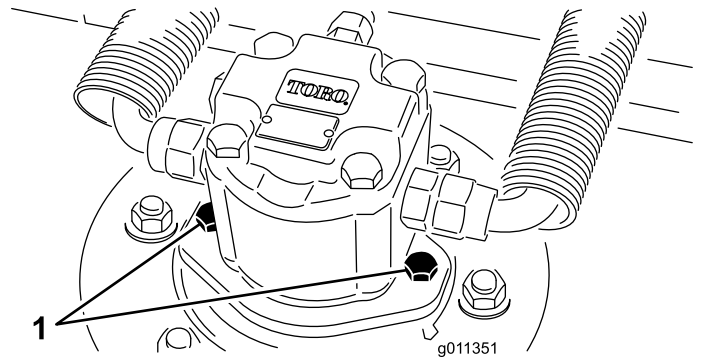

Figure 85
2. Disconnect and remove the hydraulic motor from the cutting unit (Figure 85). Cover the top of the spindle to prevent contamination.
3. Install the hydraulic motor to the cutting unit (Figure 85). Make sure that the O-ring is in position and not damaged.